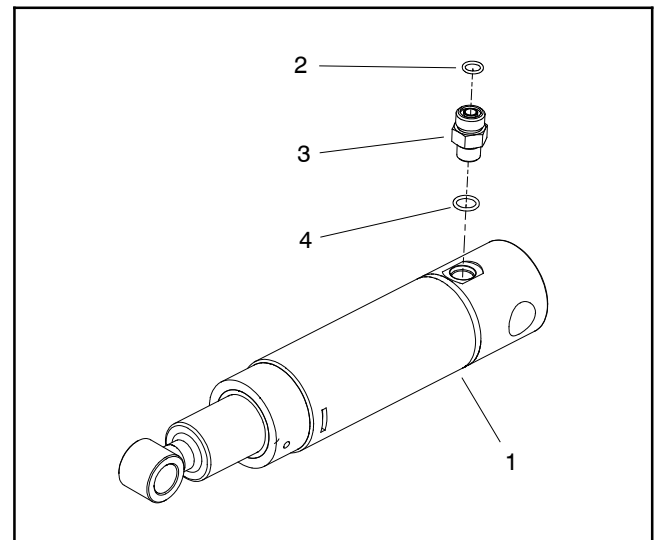

Figure 107
5. Remove flange nut and flange head screw that secure the pin assembly (item 4) to the lift arm. Remove pin assembly from lift arm and cylinder rod end which will free lift cylinder from lift arm.
6. Remove one (1) cotter pin and two (2) flat washers from one end of the clevis pin (item 8) that secures barrel end of lift cylinder to front frame. Pull clevis pin from frame and cylinder barrel.
8. If necessary, remove hydraulic fitting from cylinder and discard O-rings (Fig. 107).